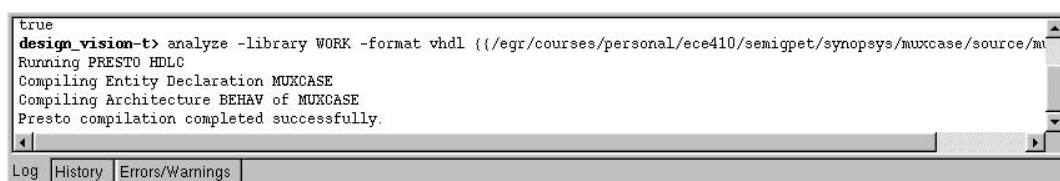

Figure 4: Design Vision report of successful compilation.
13. Make sure that the bottom of your *Design Vision* window reports successful compilation as shown in Figure 4.